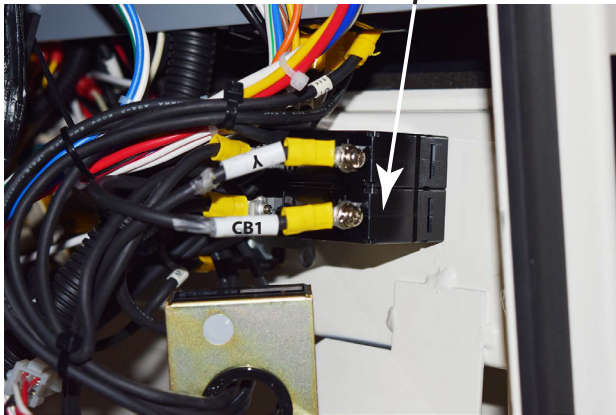

Figure 6. CB1 Installation
7. Orient the wired CB1 and carefully position behind the control panel where the holes were drilled (Figure 6). Push in switch through the large hole.